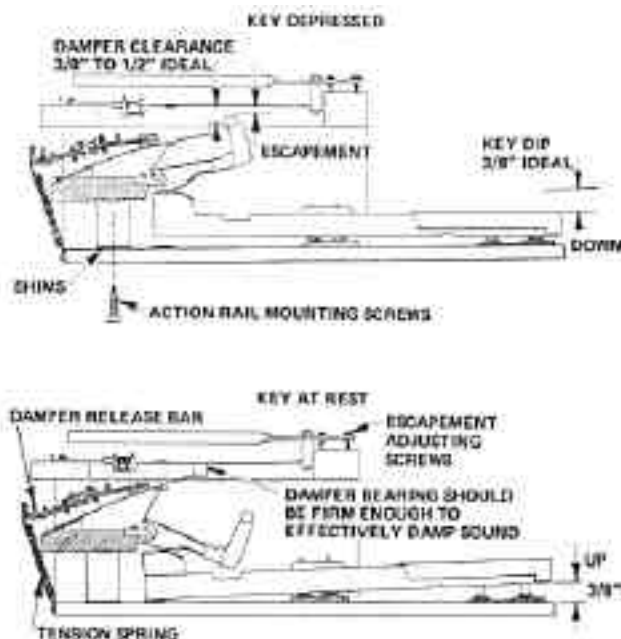

Figure 10-1. RHODES Early Design Single Key Views
1. **Key Dip.** Key Dip and Hammer travel are controlled by the height of the Action Rail. Key Dip is the term used to describe the downward limit of travel of the Key when depressed. $\frac{3}{8}$ " (9.525mm) is ideal. This is controlled by means of shims (Figure 10-1) placed between the Action Rail and the Key Frame. To adjust, remove the entire Action from the box. Along the back of the Key Frame under the Action Rail will be five wood screws. Remove these, then either remove shims or add shims depending upon whether you wish to reduce or increase the Key Dip.